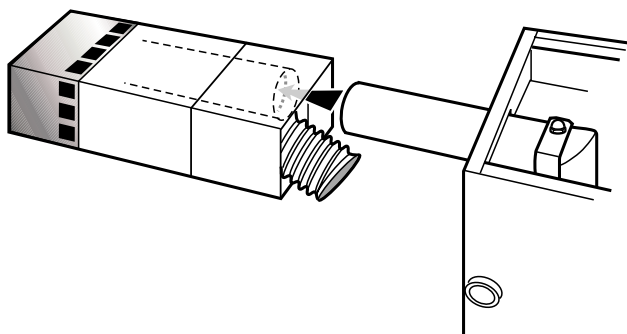

Fig. 23
- 8 Extend the telescopic flue assembly to the approximate required length. Offer the flue assembly up to the flue elbow ensuring that the assembly is in line with the elbow and engage the flue pipe over the elbow. See Fig. 23.